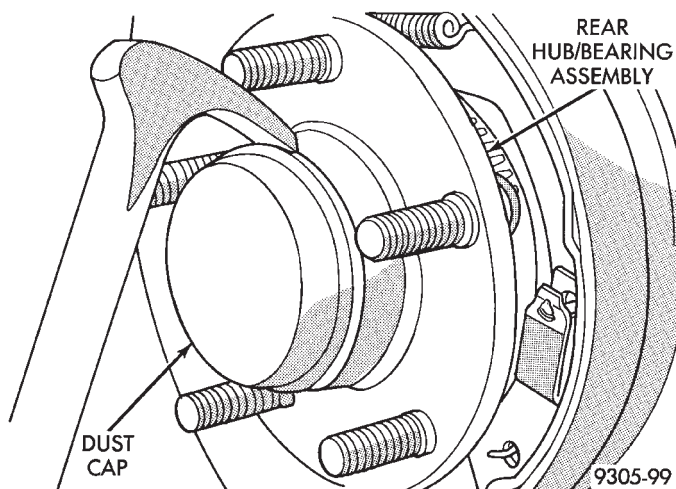
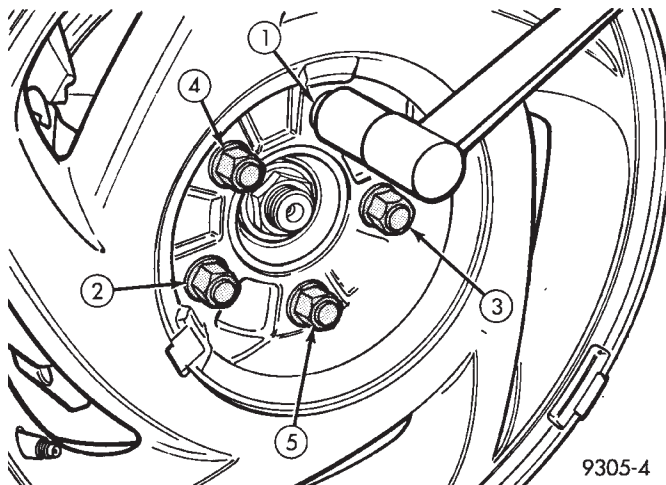

Fig. 1 Rear Hub And Bearing Dust Cap Removal
Fig. 3 Tightening Wheel Nuts
(1) Remove rear hub and bearing assembly dust cap (Fig 1). Remove cotter pin and nut lock from rear spindle.
(2) Install rear hub and bearing duct cap (Fig. 1).
(3) Install rear brake drum or rotor on hub.
(4) Install the wheel and tire assembly. Tighten the wheel mounting stud nuts in proper sequence (Fig. 3) until all nuts are torqued to half specification. Then repeat the tightening sequence to the full specified torque of 129 N•m (95 ft. lbs.).